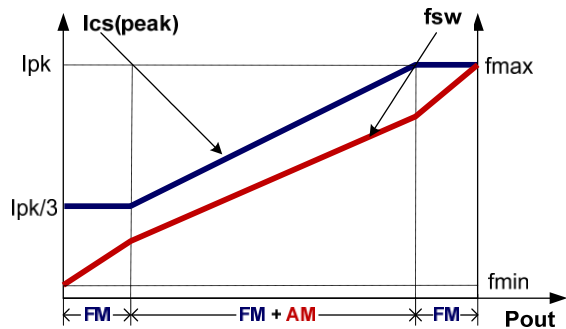

Fig.3
To meet the tight requirement of averaged system efficiency and no load power consumption, a hybrid of frequency modulation (FM) and amplitude modulation (AM) is adopted in DP5546 which is shown in the Fig 3.